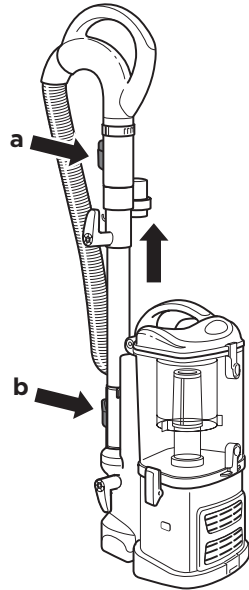

Fig. 9
- 2 To clean with the handle, press the Handle Release button (a) and lift the handle out of the wand. To clean with longer reach, press the Wand Release button (b) and detach the wand from the canister. (Fig. 9)